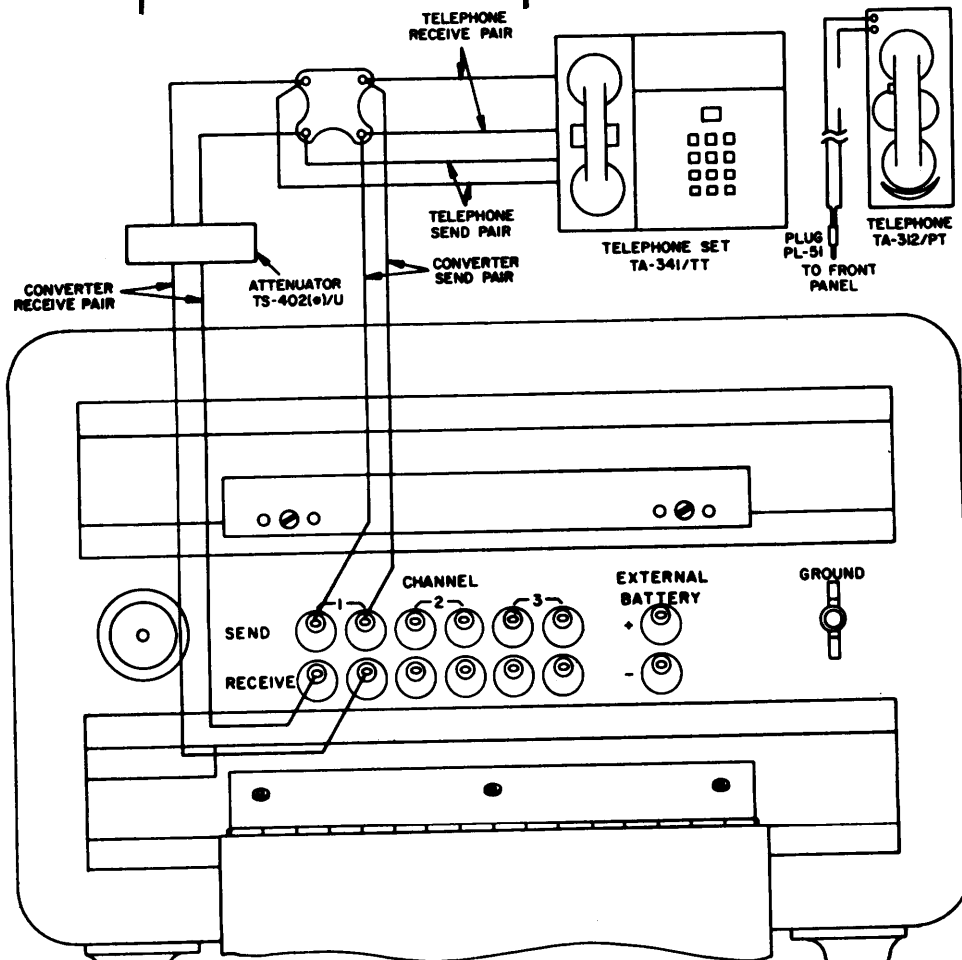

Figure 2-10. Operational performance test.
- (1) Telephone TA-312/PT with Plug PL-51.
- (2) Telephone Set TA-341(*)/TT.
- (3) Attenuator TS-402(*)/U.
b. Test Connections (fig. 2-10).
- (1) Connect TA-341(*)/TT send pair through TS-402(*)/U to CV-1919A/G CHANNEL 1 RECEIVE pair.
- (2) Connect TA-341(*)/TT receive pair to CV-1919A/G CHANNEL 1 SEND pair.